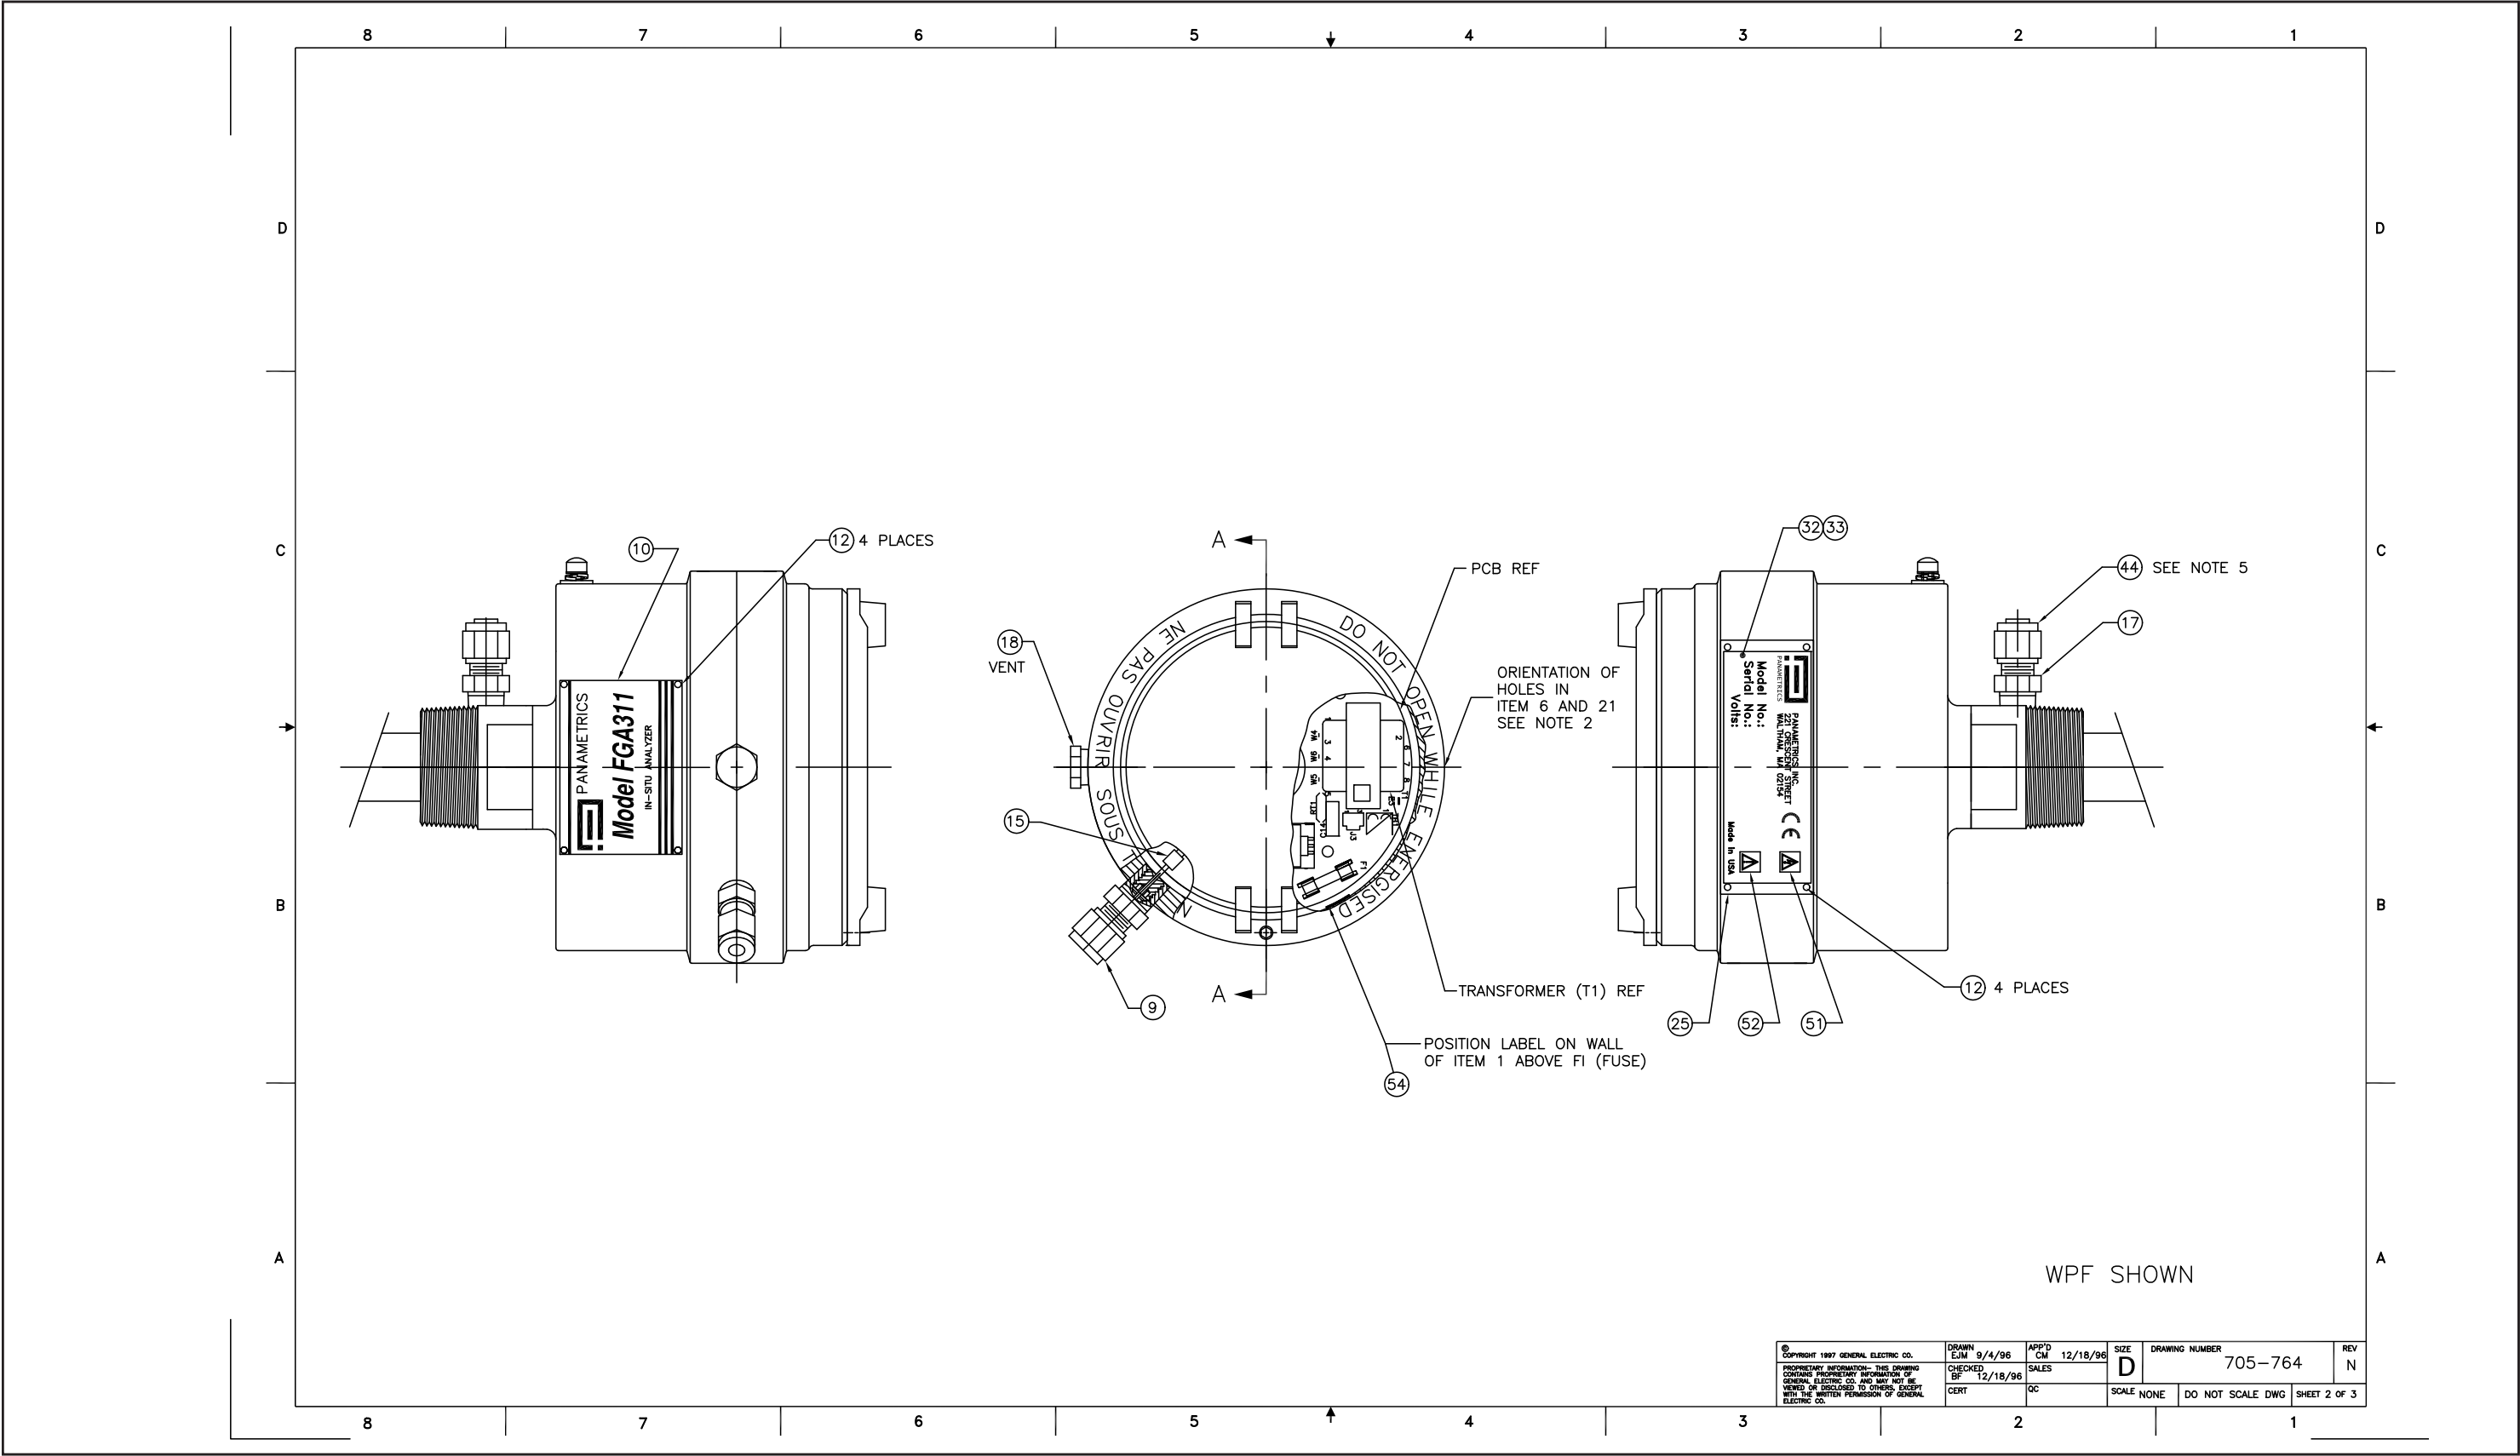

Figure 19: FGA 311 Weatherproof Assembly (Drawing 705-764_rev N, Sheet 2)
- Figure 19: FGA 311 Weatherproof Assembly (Drawing 705-764_rev N, Sheet 2) ----- 74